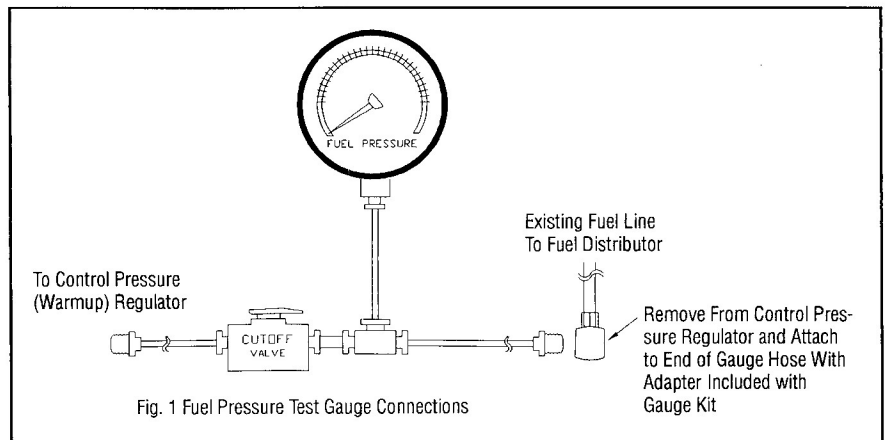

Fig. 1 Fuel Pressure Test Gauge Connections
pump operation - about 1 quart. Nothing special here, except that you will need to run the fuel pump without running the engine. Figure 1 shows how to activate the fuel pump without starting the engine. Otherwise, instructions in referenced manuals apply as written.
**Fuel Injector Test** - Tests the volume of fuel delivered by each injector and the spray pattern. Ideally volume and pattern will be nearly the same, since you want each cylinder to get the same fuel/air charge. The test involves removing all injectors at once and placing their spray ends in jars (baby food jars work fine). Run the pump as shown in Figure 1 to about half-fill the jars, following standard procedures shown in the manuals. The procedures may ask you to raise the air sensor plate to start fuel delivery; in the DeLorean you depress the plate instead, since the DeLorean uses a down-